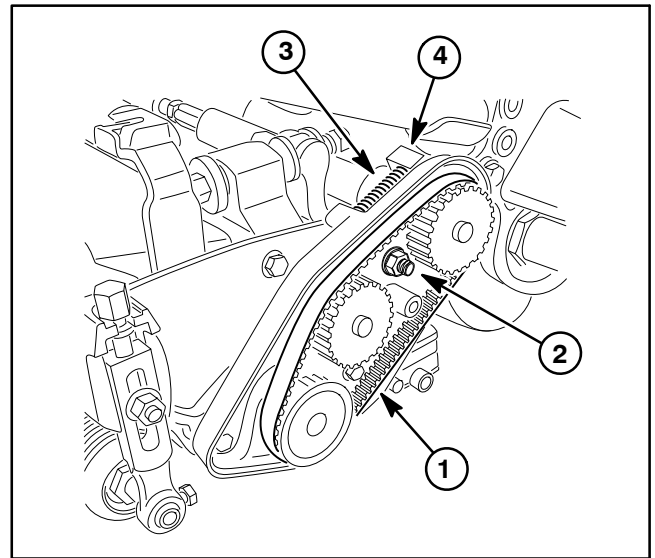

Figure 15
3. Loosen the bearing housing mounting nut (Fig. 15).
4. Using a 5/8" (16mm) wrench, rotate the bearing housing to release tension on reel drive belt (Fig. 15).
2. Using a 5/8" (16mm) wrench, rotate and hold the bearing housing to allow reel drive belt installation (Fig. 15).
5. Rotate reel drive at least one (1) full turn to ensure that drive belt is properly tensioned.
6. Tighten the bearing housing mounting nut (Fig. 15).